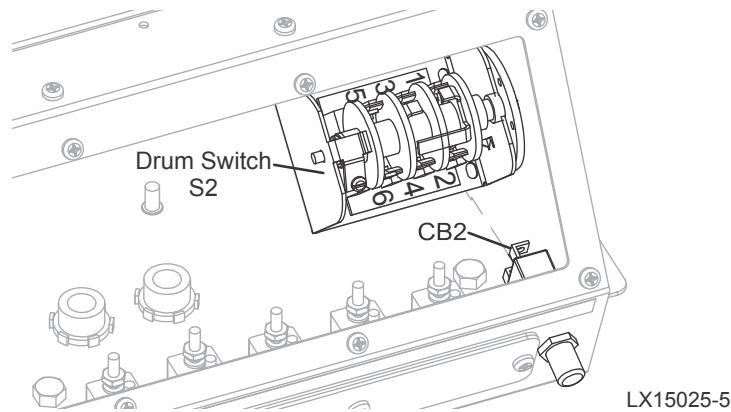

FIGURE 4
3. Remove the white wire from drum switch S2, terminal #4 and reconnect it to drum switch S2, terminal #2. (See FIG. 4.)
6. Connect the diode D1 output (red) wire to the jumper wire at solenoid SOL5, terminal #1. (See FIGs. 4 and 5.)
7. Disconnect the red wire at circuit breaker CB2 coming from the solenoid SOL4 terminal #3. Seal the unused end with part of the neoprene included in the kit. (See FIGs. 4 and 6.)